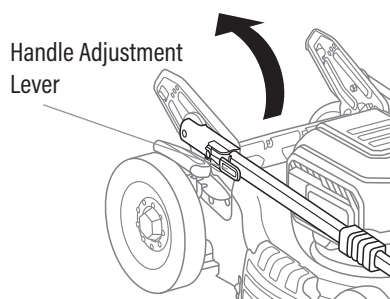

Fig. 2A
1. Press and hold both quick adjust levers to release the handle. Gently pivot the handle from the folded position to the working position, as shown in (Fig. 2A).